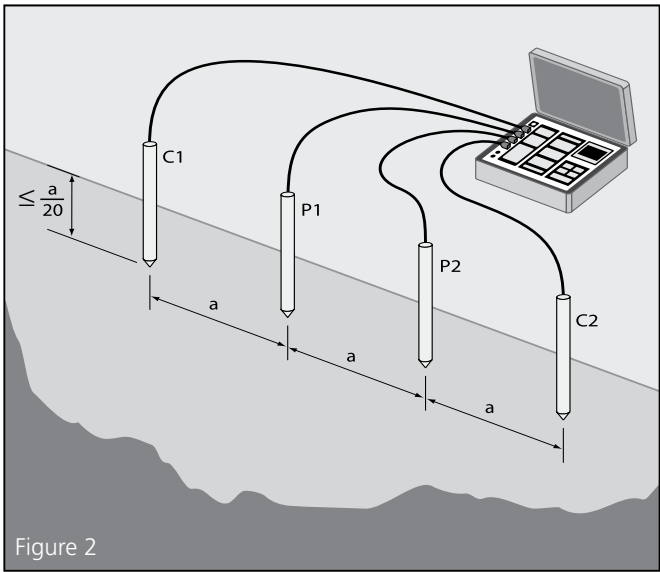

Figure 2
2. An earth resistance tester is connected to these four stakes as shown in Figure 2.